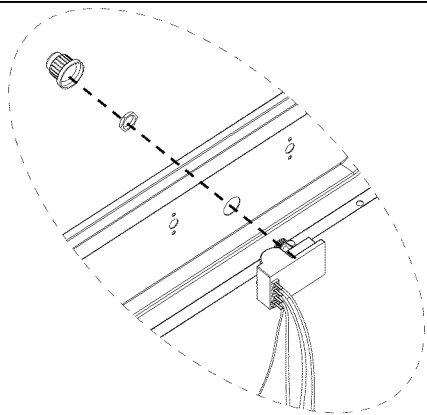

Fig. 13
*Procedure:* Unscrew the cap and nut from the Electronic Igniter first. Refer to Fig. 13, attach the Electronic Igniter using the cap and nut as shown.